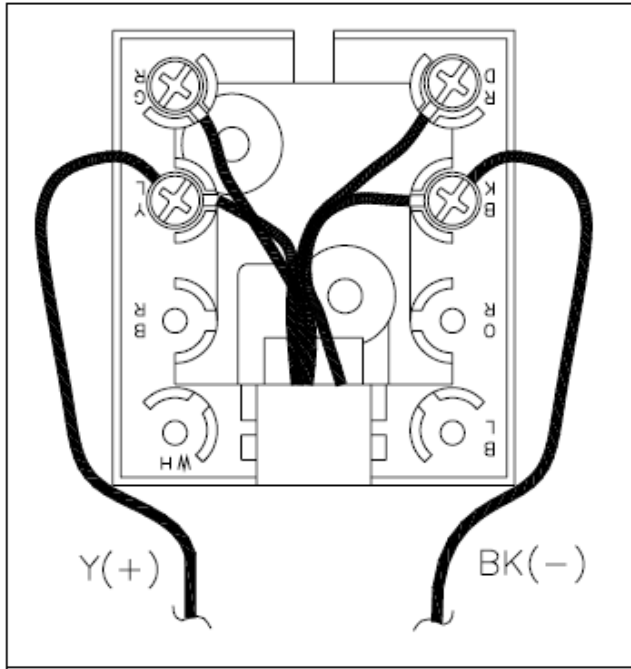
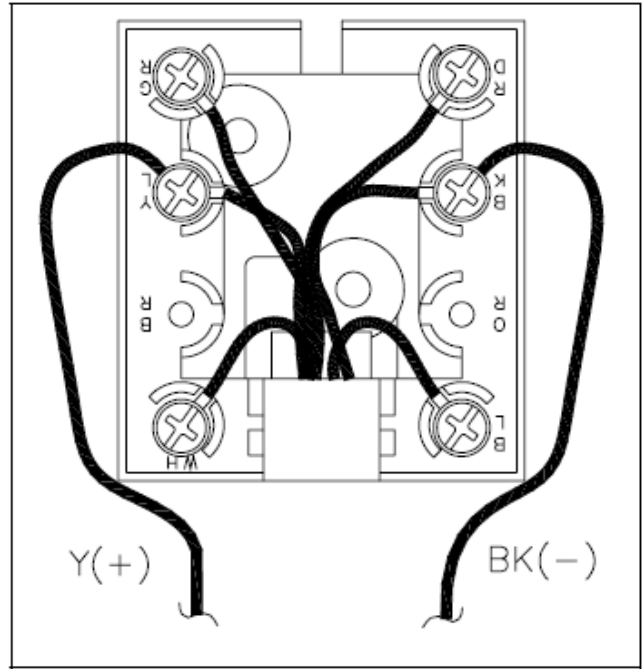

Figure 2. Wiring for Model 206F
Figure 3. Wiring to Model 206W
5. Tap out the wire guides in the side of the modular wall jack. Connect the black (-) wire and the yellow (+) wire as noted in Figure 2 for Model 206F and Figure 3 for Model 206W.